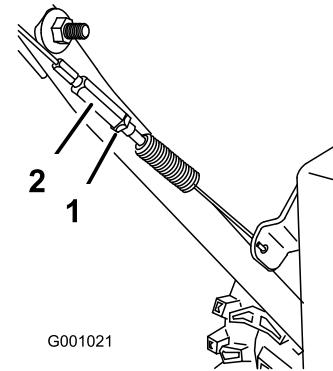

Figure 46
3. Tighten the jam nut (Figure 46).